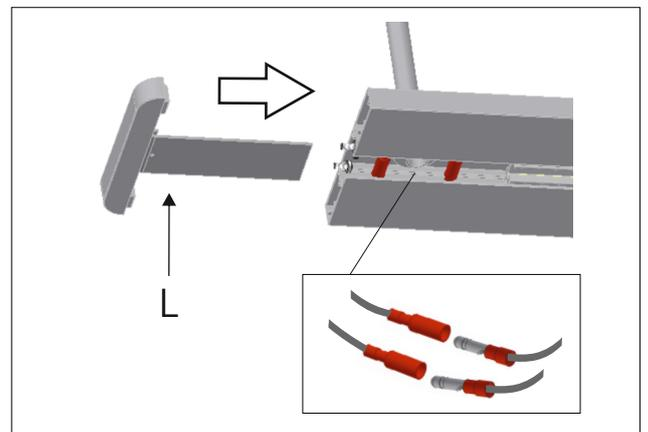

Figure 13
13 - Connect the electrical wires and place back the cover (L). Screw back the stud bolt be gentle with the pressure. Do not over tight. Figure 13.